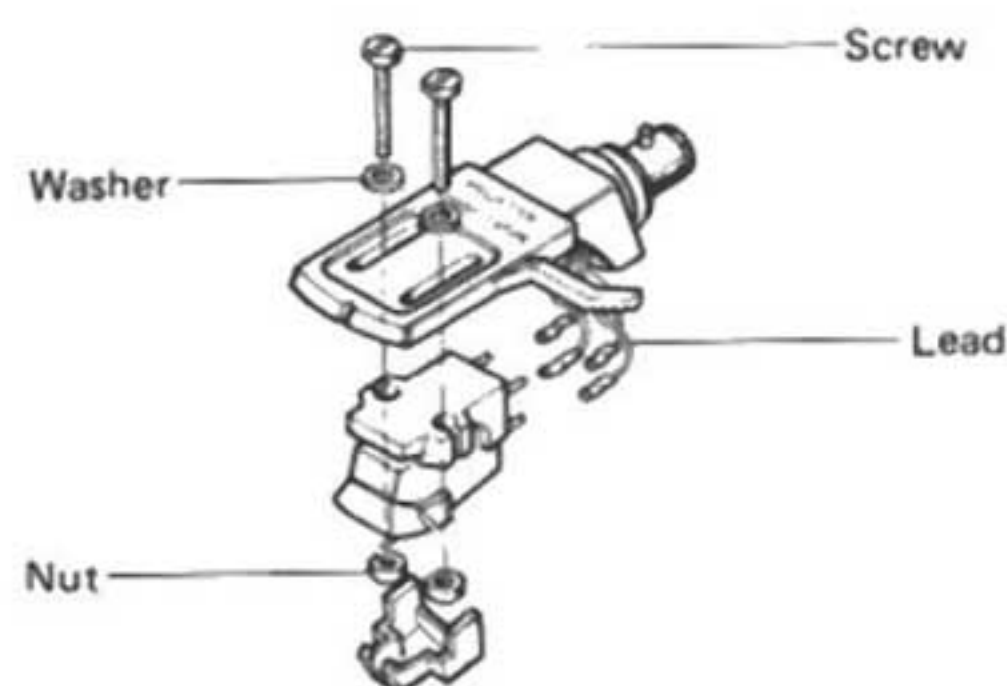

Fig. 4
2. Secure the cartridge to the headshell temporarily using the accessory cartridge mounting screws, washers and nuts, as shown in Fig. 4.